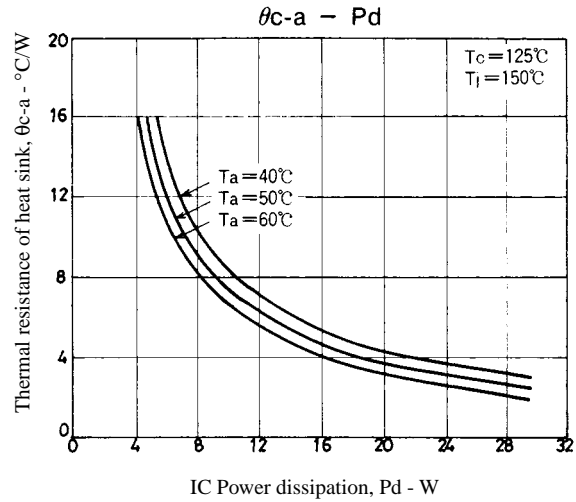

Figure 2. STK4412  $\theta_{c-a} - P_d$
Figure 2 shows the relation between  $P_d$  and  $\theta_{c-a}$  given from (1) and (3) with  $T_a$  as a parameter.
The thermal resistance of a heat sink is obtained from Figure 2.